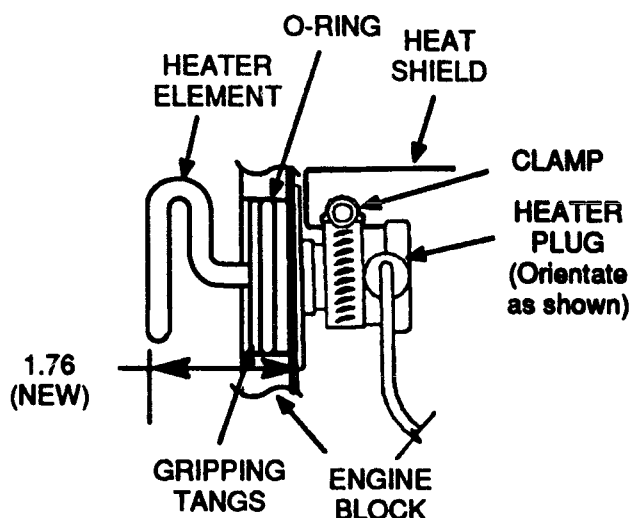

FIGURE 2. COOLANT HEATER INSTALLATION
1. Lubricate the o-ring of new heater element, then properly orientate and install the heater element into the engine block. See Figure 2.